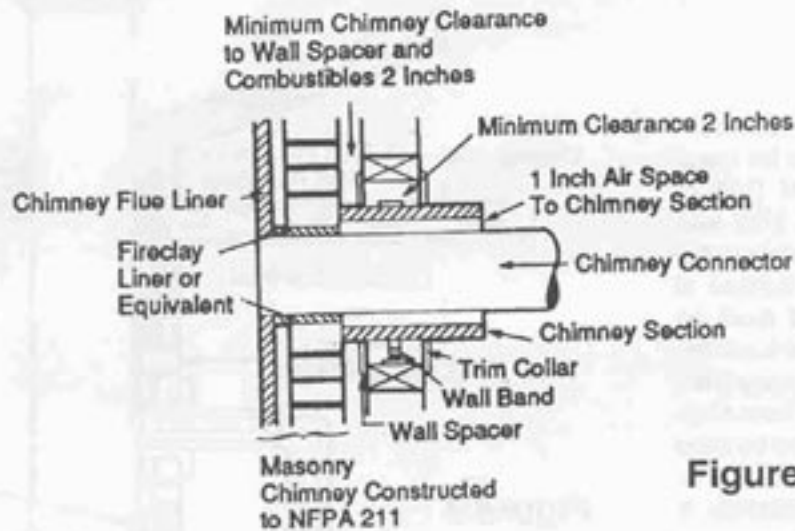

Figure 10
B. 6 inch solid pack chimney with metal supports as a thimble – For the method of installation to a masonry chimney shown in FIGURES 10 and 11, it will be necessary to purchase a 6 inch inside diameter 12 inch long section of prefabricated listed solid pack chimney to use a thimble. Purchase a wall spacer, trim collar and wall band that are manufactured to fit the chimney section you purchase.